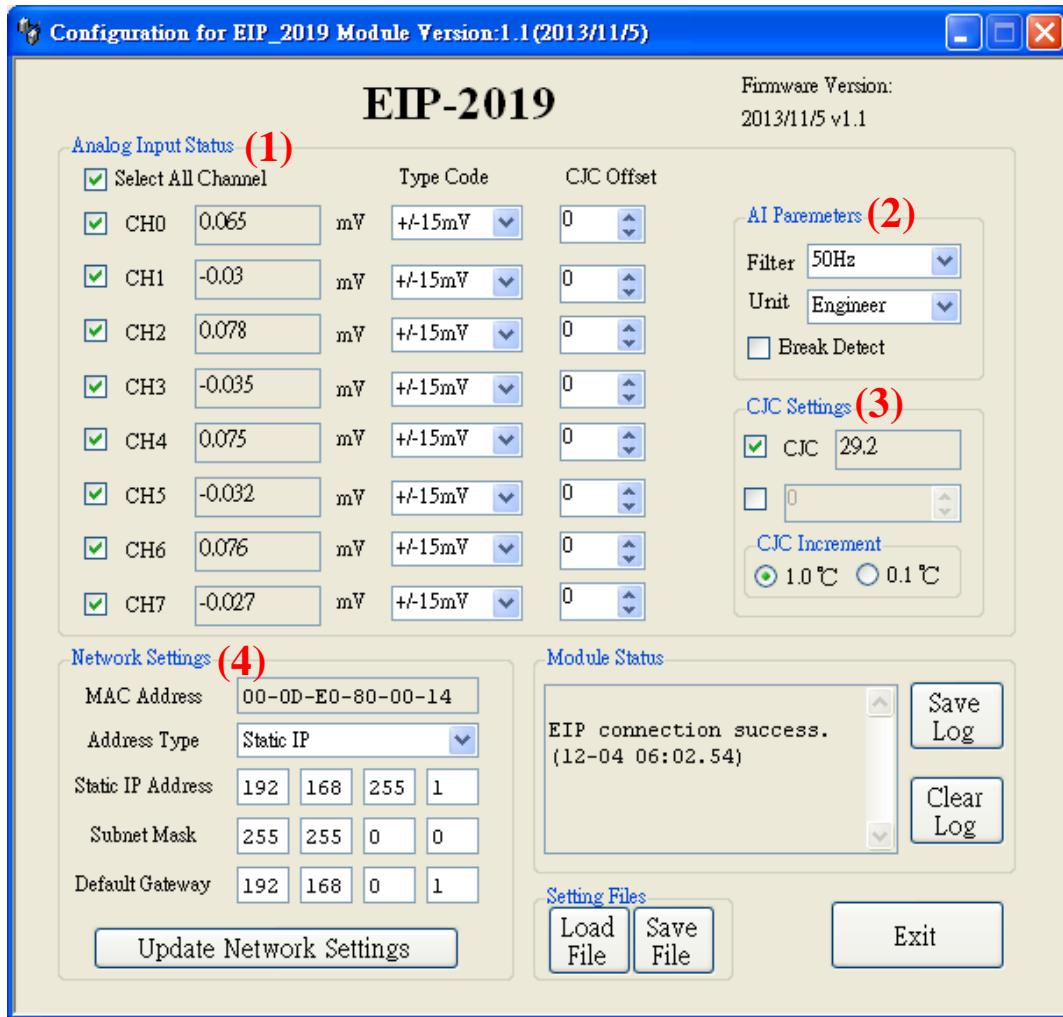

Figure 4-2 EIP-2000 Utility configurations
3. Click the **EIP-2019 or other EIP-2000 modules** on the device list below to open the configuration dialog of **EIP-2000**. Each EIP-2000 module has its own configuration interface. Please refer to Figure 4-2.